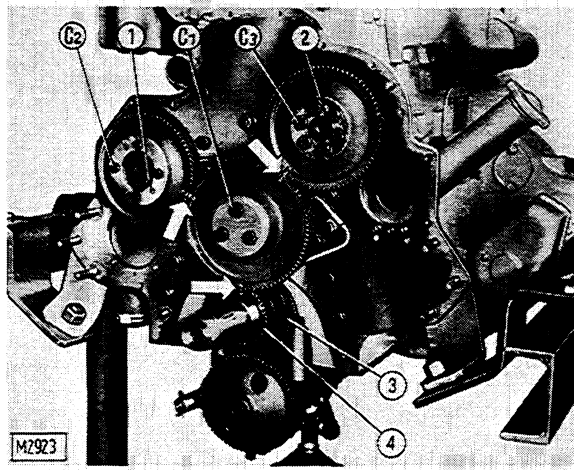

Fig. 14 - Gear train assembly.
- Remove timing gear housing cover (fig. 14).
- Remove capscrews (C₃, fig. 14) and withdraw camshaft gear.
- Make sure that alignment dowel (2) is inserted in the associated seat on gear.
- Remove capscrews (C₁, fig. 14) and withdraw idler gear.
Engine oil pump drive gear (3, fig. 14) and crankshaft gear (4, fig. 14):
- Install the gears to the associated shafts, ensuring that the timing marks are matched (1-1, 2-2, 3-3, fig. 14). Install the idler gear last, after gears (1 and 2) are properly meshed.
- Remove camshaft gear capscrews (C_3 , fig. 14).